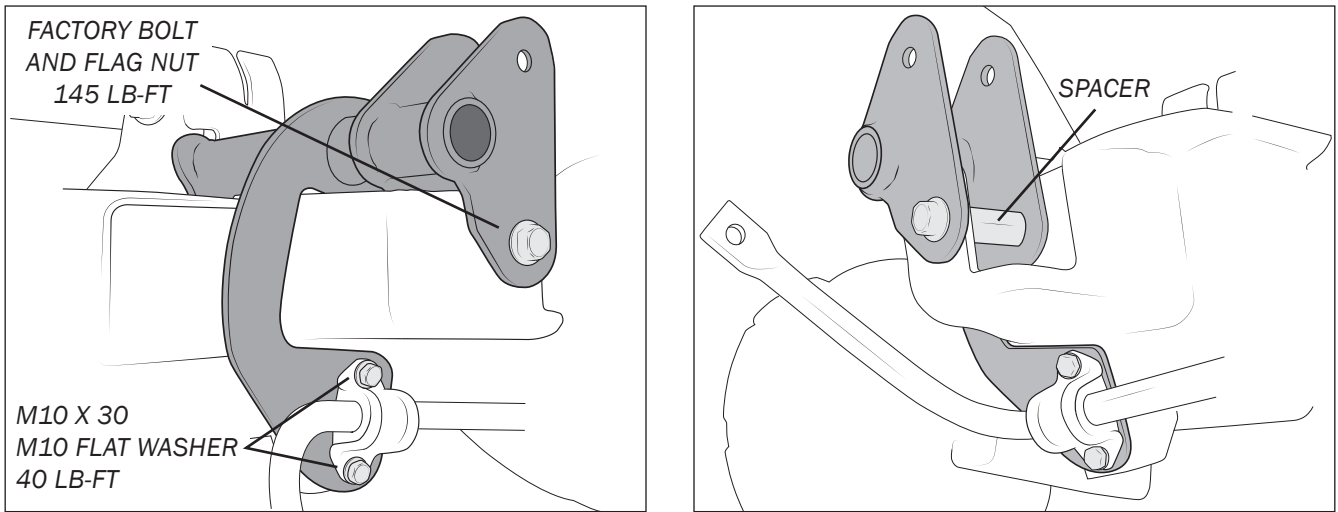

Figure 9
- b. Position the rear track bar relocation bracket on the axle and secure using the supplied hardware (fig. 9). NOTE: You will still have one hole to drill before all hardware can be installed.